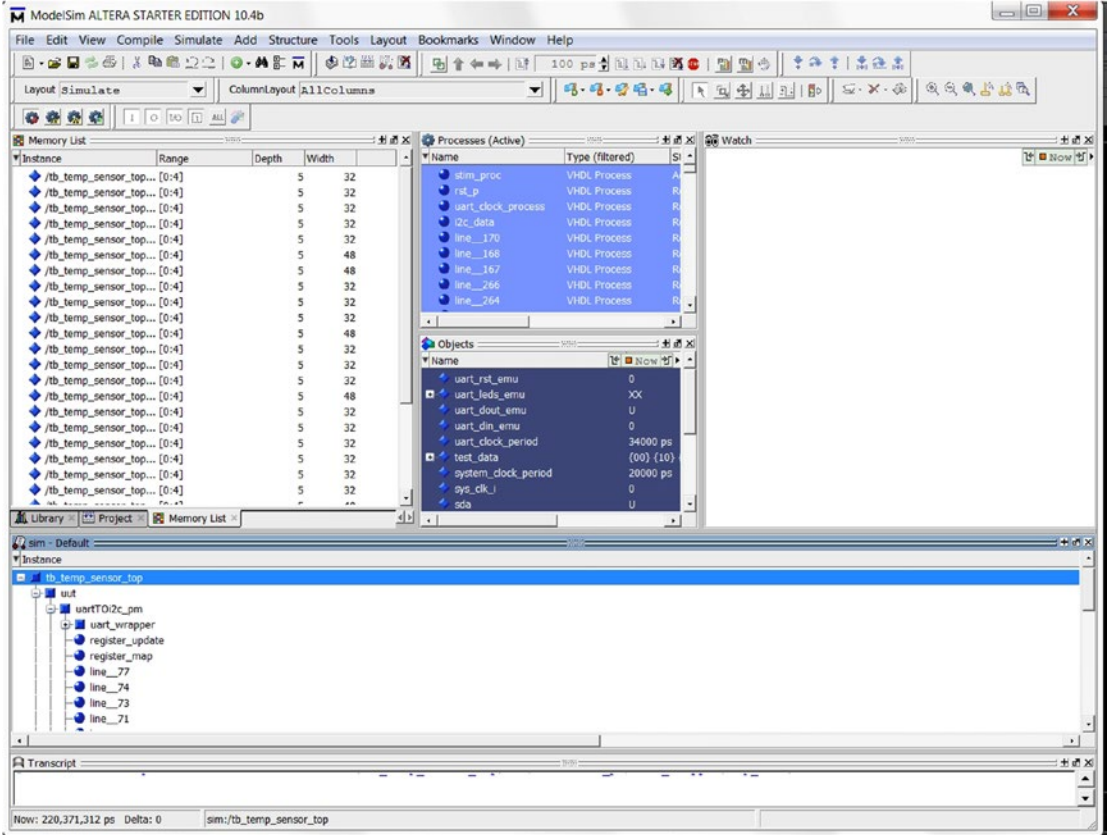
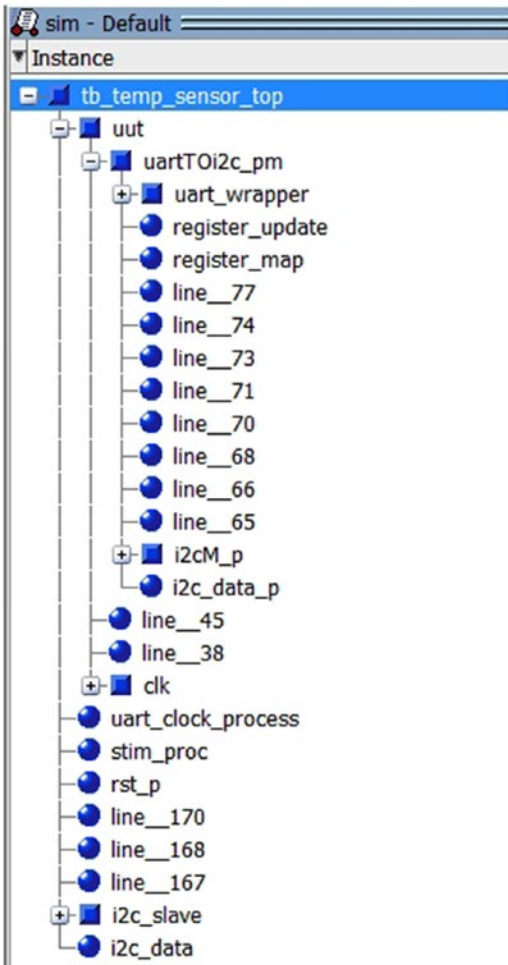

Figure 13-31. ModelSim with test bench
Figure 13-32. ModelSim Instance list
11. The ModelSim should start like Figure 13-31 and the sim instance list shown in Figure 13-32. It will run for 1 mS.